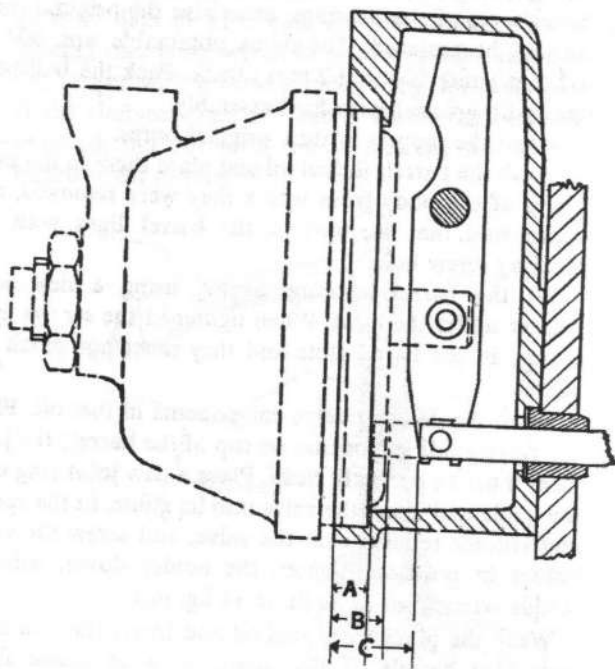

Fig. D.17
**NOTE.**—The control rod setting position is the distance from the end face of the control rod to the end face of the governor front half, i.e. the distance (c) in Fig. D.17.